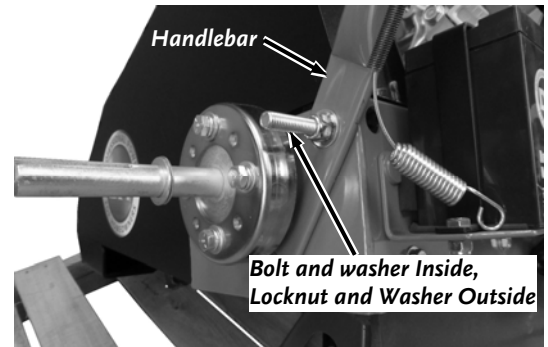

Figure 9
11. Align the left side of the Handlebar with the holes in the Frame (**Figure 9**). At the top hole, install a 3/8-16 x 2-1/4" Bolt with washer (Inside Frame) and Locknut with Washer (against Handlebar). Tighten with two 9/16" Wrenches.